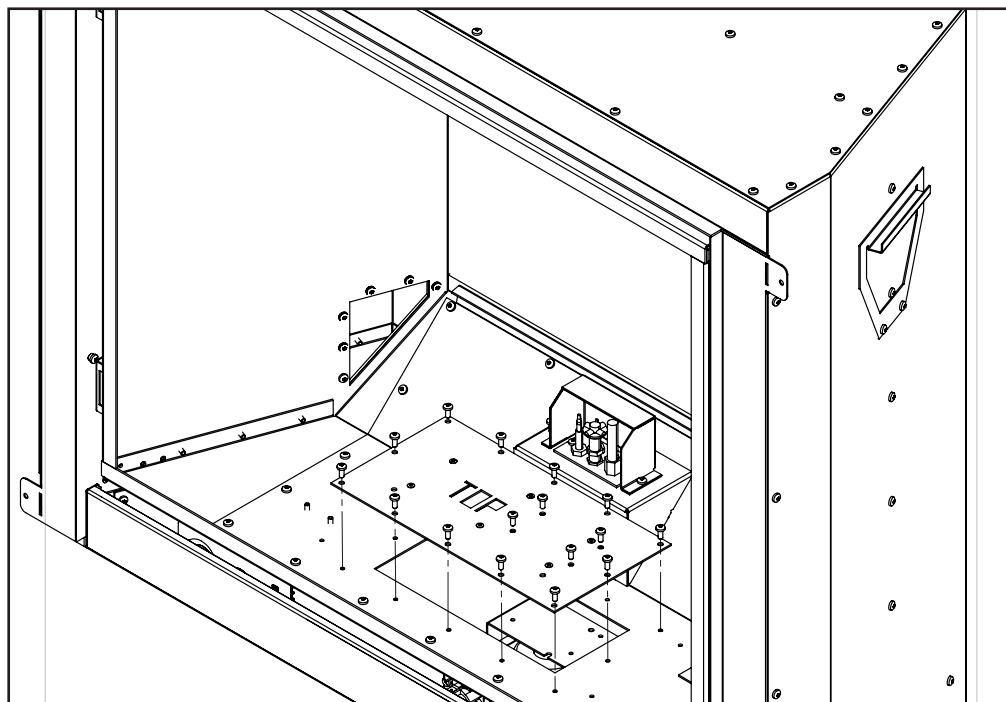

Figure 11. Removing Burner
Step 2: Remove the Upper Air Diverter by removing (2) T-20 bolts. Remove the Lower Air Diverter.
Step 3: Remove the right and left burner stands by removing (4) T-20 bolts.
Step 4: Remove the (16) T-20 bolts retaining the access door as shown in Figure 11.